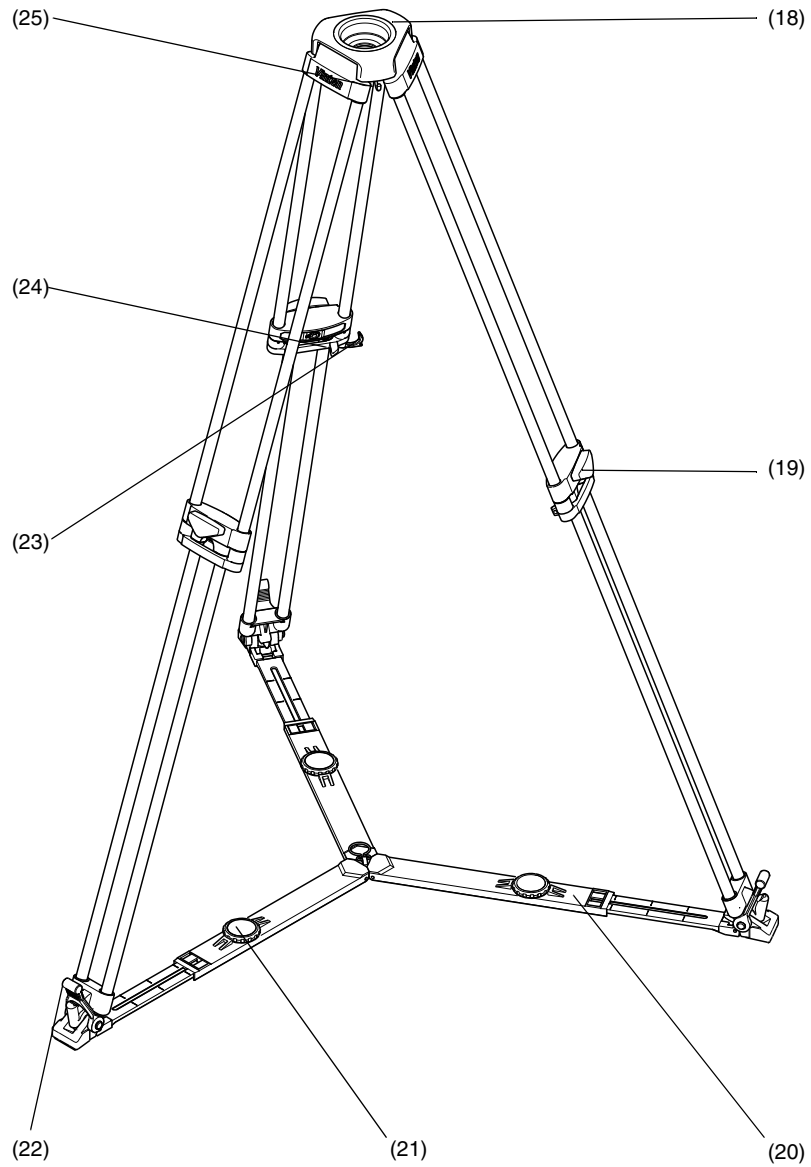

Fig. 2 Pozi-Loc Tripod and Floor Spreader
The Pozi-Loc single-stage tripod (Fig. 2) has aluminium legs and a 75 mm levelling bowl (18). It is fitted with the highly-efficient Pozi-Loc leg clamp (19), which provides quick set-up and easy adjustment.
The tripod is supplied with a floor spreader (Fig. 2) which increases the rigidity of the tripod. The floor spreader which, being flexible, compensates for uneven ground, protects floors and carpets and prevents the tripod legs sinking into soft ground. It should be used at all times.
To install the floor spreader (Fig. 2):